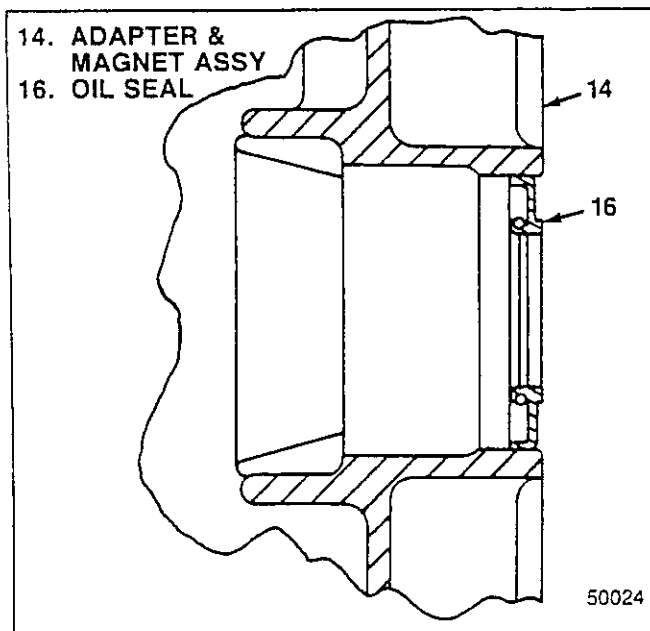

Figure 5-19. Input Shaft Oil Seal
1. If removed, press in new bearing cups (12 and/or 13) to bottom in adapter and magnet assembly (14).
2. Position new oil seal (16) as shown in figure 5-19 and press into adapter and bearing cup assembly (11) so that outside face of oil seal is flush with outside face of adapter and bearing cup assembly.
3. Position transmission assembly with pump end down and install gasket (15) and adapter and bearing cup assembly (11). Attach with bolts and torque as follows: